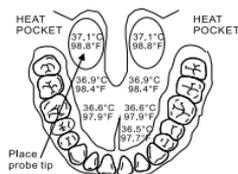

Figure 3
**Oral Use:** (ages 4 years and older): Place probe under patient’s tongue (Figure 3) and close mouth. The peak temperature should be reached in about 8 seconds. Opening the mouth or improper placement of the probe tip may affect read time.